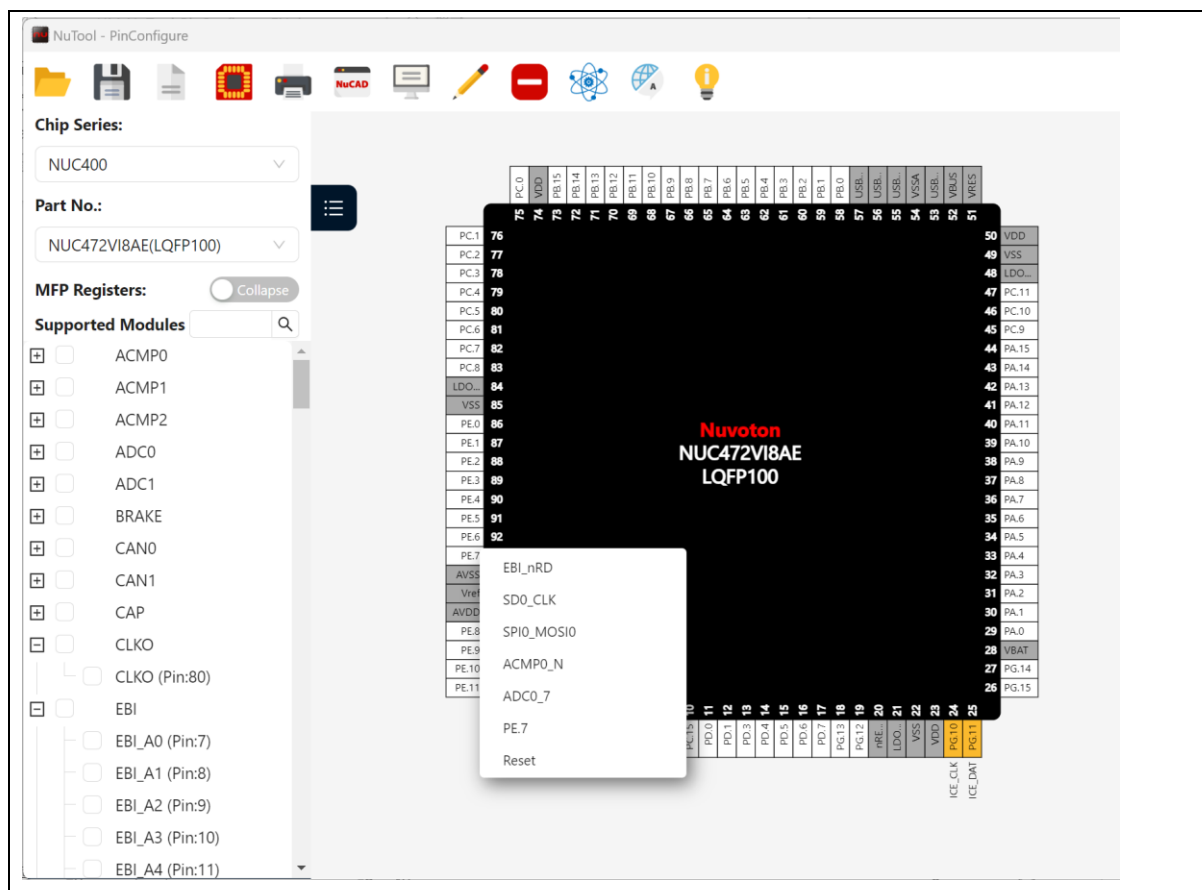

Figure 4-8 List of All the Related GPIO Multi-functions
| Figure 4-8 List of All the Related GPIO Multi-functions .....        | 12 |
1. Move the mouse cursor to the expected pin and click on the left button of the mouse. Then the list of all the related GPIO multi-functions will emerge in the vicinity of the pin (referring to Figure 4-8).